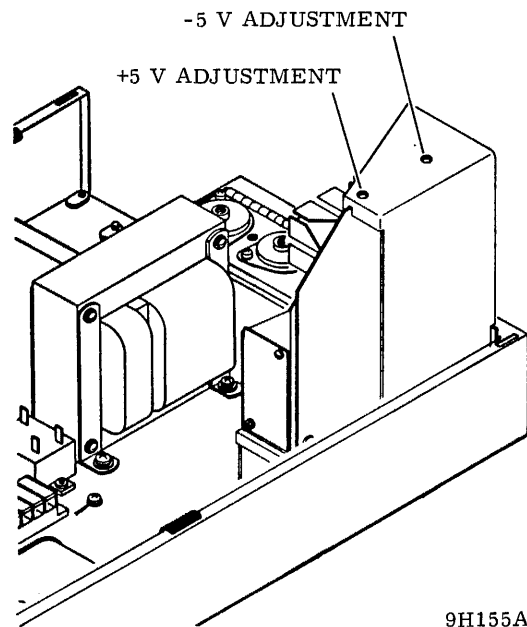

Figure 2-11. Power Supply Adjustment Locations
6. Minus 5-volt output should be from -5.05 to -5.15 volts. If not, adjust -5 V potentiometer on card ALA01 (see figure 2-11) until output is within specification.